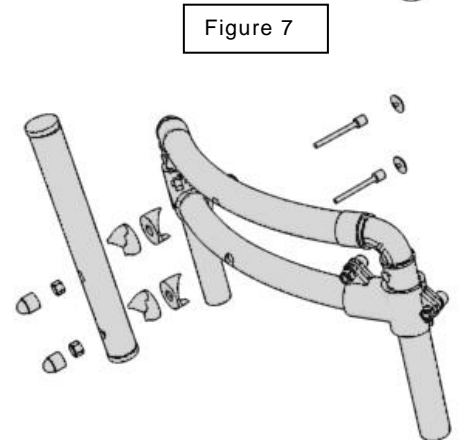

Figure 7
4. Fit the vertical tube on the top of the backrest and on the headrest bend (Figure 7).